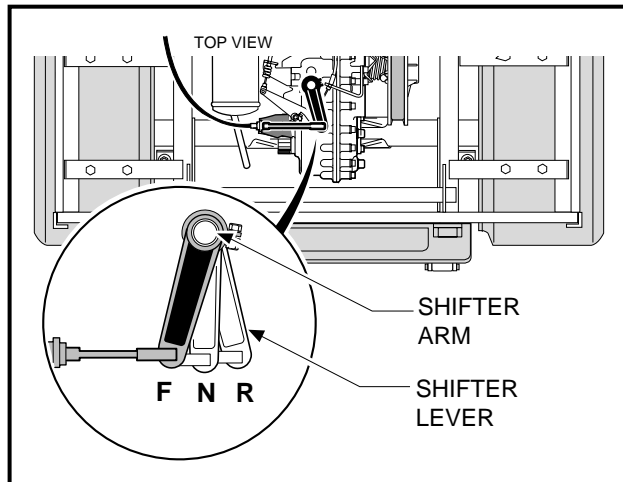
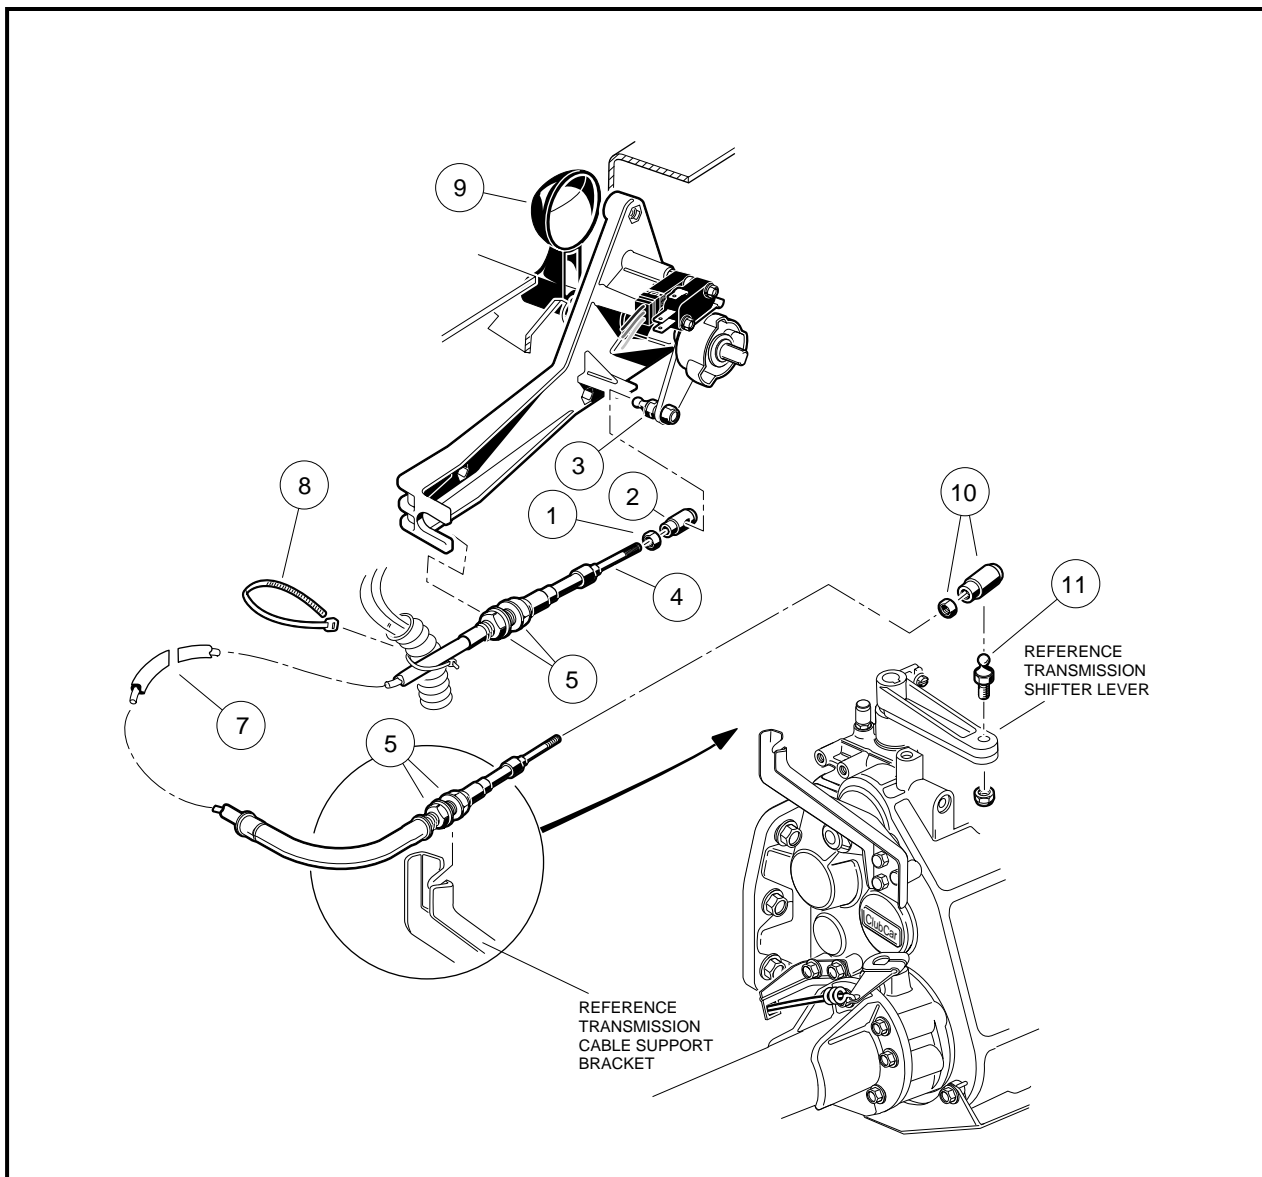

Figure 16-115 F&R Positions
Figure 16-116 F&R Shifter Cable
1. Remove the ball joint socket (2) from the F&R shifter assembly ball stud (3) (**Figure 16-116, Page 16-48**).
2. Remove the ball joint socket (10) from the shifter arm ball stud (11) on the transaxle (**Figure 16-116, Page 16-48**).
3. Loosen the retaining nuts (5) on both ends of the cable and remove the wire tie (**Figure 16-116, Page 16-48**).
2. Secure the cable with retaining nut (5) on each side of the shifter cable support bracket at the transaxle (**Figure 16-116, Page 16-48**). Tighten nuts to 22 ft-lb (29.8 N·m).
3. Secure the cable with retaining nut (5) on each side of the shifter cable support bracket at the F&R assembly (**Figure 16-116, Page 16-48**). Tighten nuts to 43 in-lb (4.9 N·m).
4. Install the ball joint socket (10) on the shifter lever ball stud (11) on the transaxle (**Figure 16-116, Page 16-48**).
5. Install the ball joint socket (2) on the F&R shifter assembly ball stud (3) (**Figure 16-116, Page 16-48**).
6. Install wire tie (8) to secure wire harness to cable at the support bracket near the F&R shifter assembly (**Figure 16-116, Page 16-48**). See following **WARNING**.
With the shifter lever of the unitized transaxle in the NEUTRAL position (**Figure 16-115, Page 16-47**), the Forward/Reverse handle (9) (**Figure 16-116, Page 16-48**) should be straight up. For minor adjustments, the nut (1) may be loosened and the ball joint socket (2) rotated to get the proper adjustment (**Figure 16-116, Page 16-48**). See following **CAUTION**.
For major adjustments, the cable retaining nuts (5) must be loosened and adjusted. When the cable is properly adjusted, with the Forward/Reverse handle (9) (**Figure 16-116, Page 16-48**) in the NEUTRAL position, the shift lever of the transaxle will also be in the NEUTRAL position (**Figure 16-115, Page 16-47**). Retighten nuts (5) at transaxle to 22 ft-lb (29.8 N·m); retighten nuts (5) at the F&R assembly to 43 in-lb (4.9 N·m).